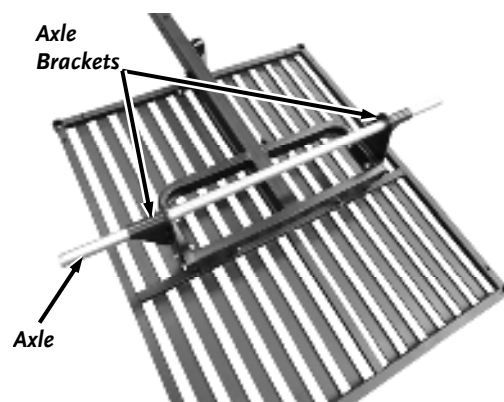

Figure 9
3. Slide the Axle through the Brackets until the same amount sticks out on each side (Figure 9). Do not tighten the hardware until you are finished step 7 on the following page.